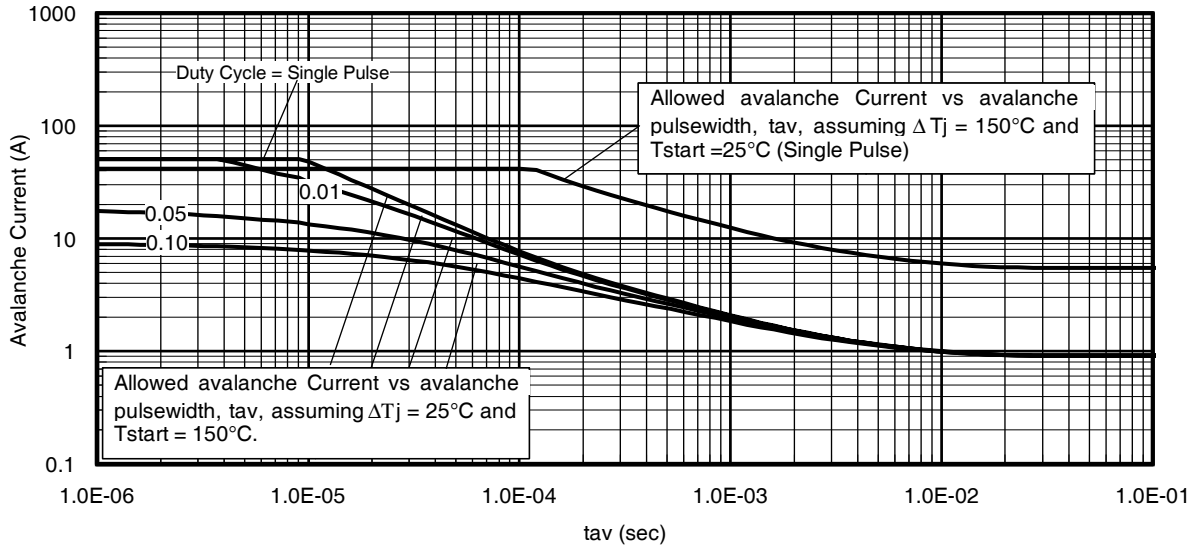

Fig 15. Typical Avalanche Current vs. Pulsewidth
**Notes on Repetitive Avalanche Curves , Figures 15, 16:**
7.  $\Delta T$  = Allowable rise in junction temperature, not to exceed  $T_{jmax}$  (assumed as 25°C in Figure 15, 16).